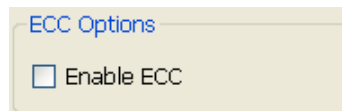

Figure 10-8: AXI4 Interface FIFO: Page 4 - ECC Selection
- The ECC can be enabled through Enable ECC in Page 4 of the AXI4-Stream FIFO GUI, as shown in Figure 10-8.